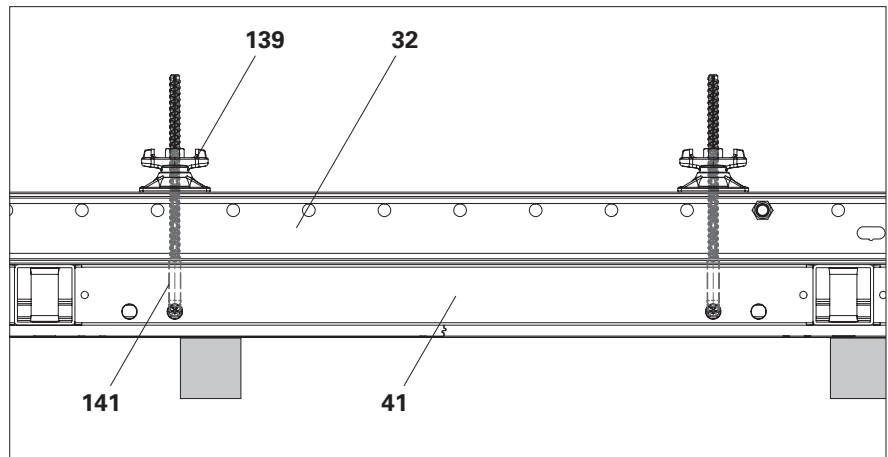

Fig. C1.01
1. Clamp the waler (**32**) to the specified position on the TRIO panel (**41**) with the Hook Tie DW 15 (**141**) and the Wingnut Pivot Plate DW 15 (**139**). (Fig. C1.01)